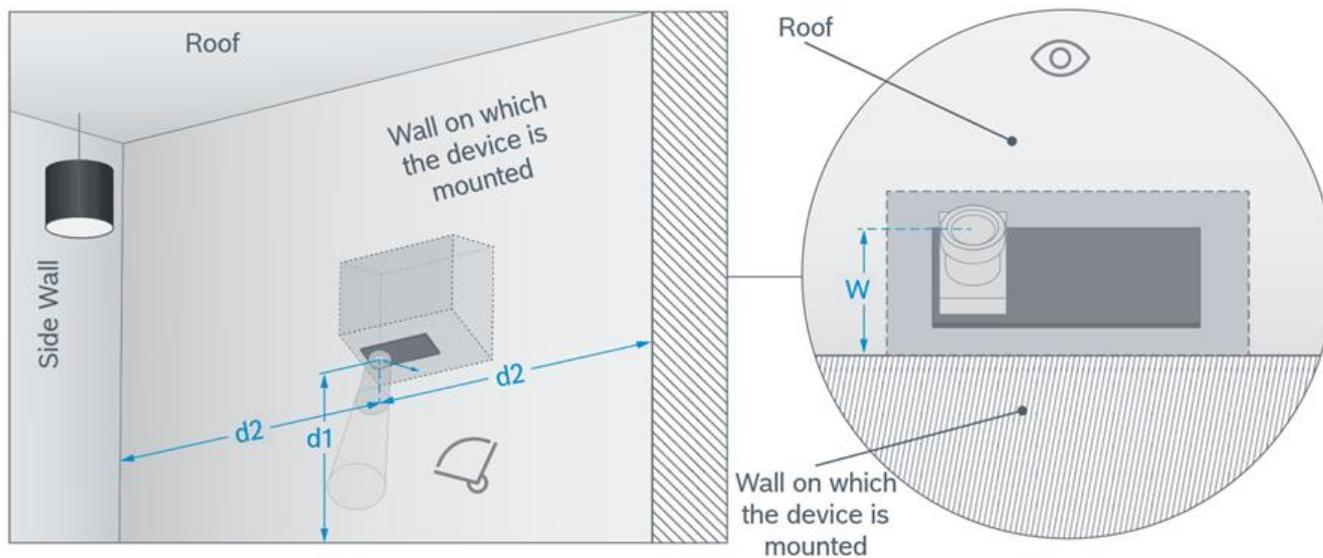
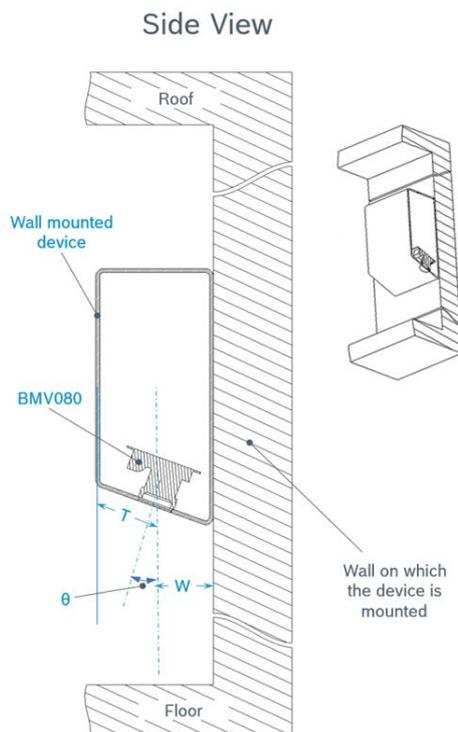

Figure 16: BMV080 (facing down) when mounted closer to the wall on host device
Figure 17: Schematic of BMV080 (facing down) when mounted closer to the wall on host device
- If the BMV080 needs to be mounted closer to the mounting surface (e.g., wall), the sensor must be tilted away from the surface as depicted in Figure 16 and Figure 17